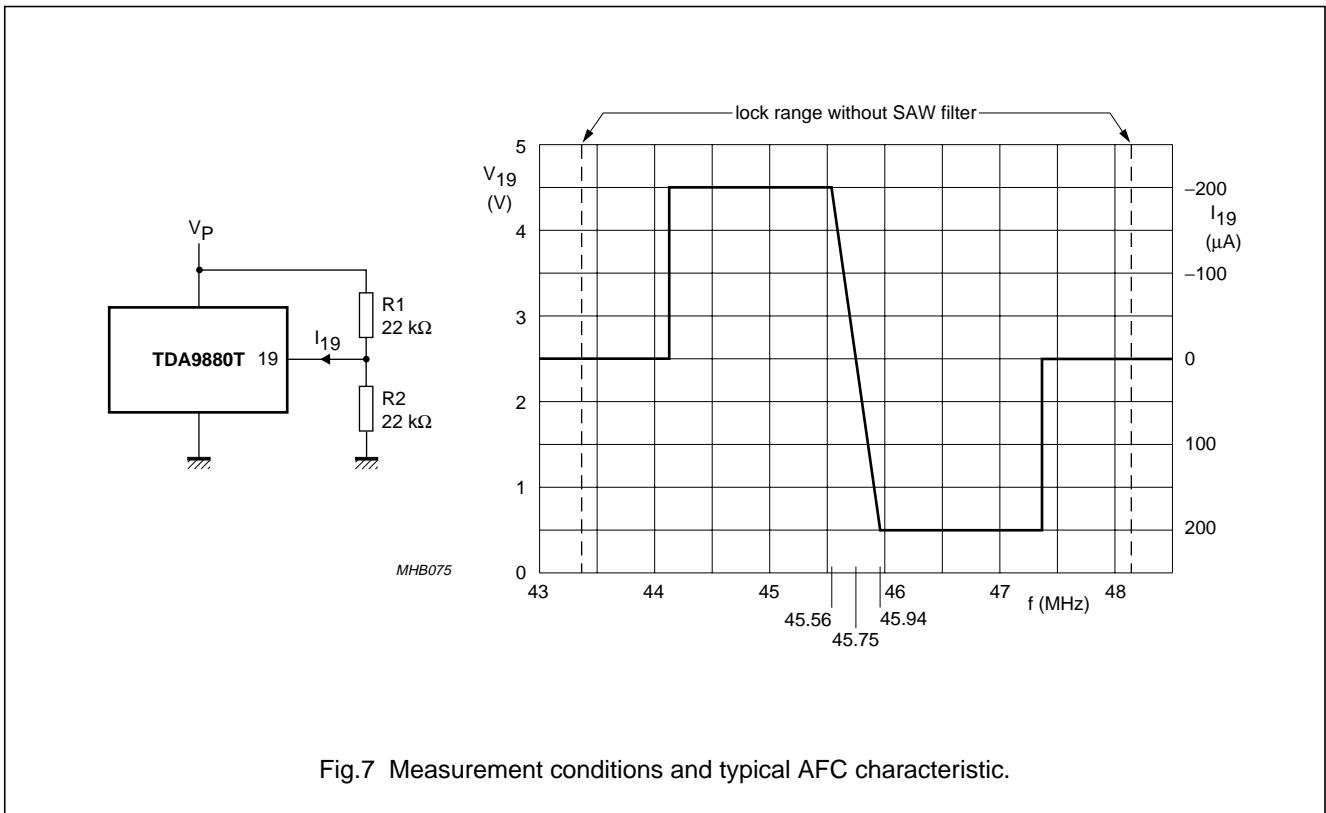

Fig.7 Measurement conditions and typical AFC characteristic.
14. To match the AFC output signal to different tuning systems a current source output is provided. The test circuit is given in Fig.7. The AFC steepness can be changed by resistors R1 and R2.